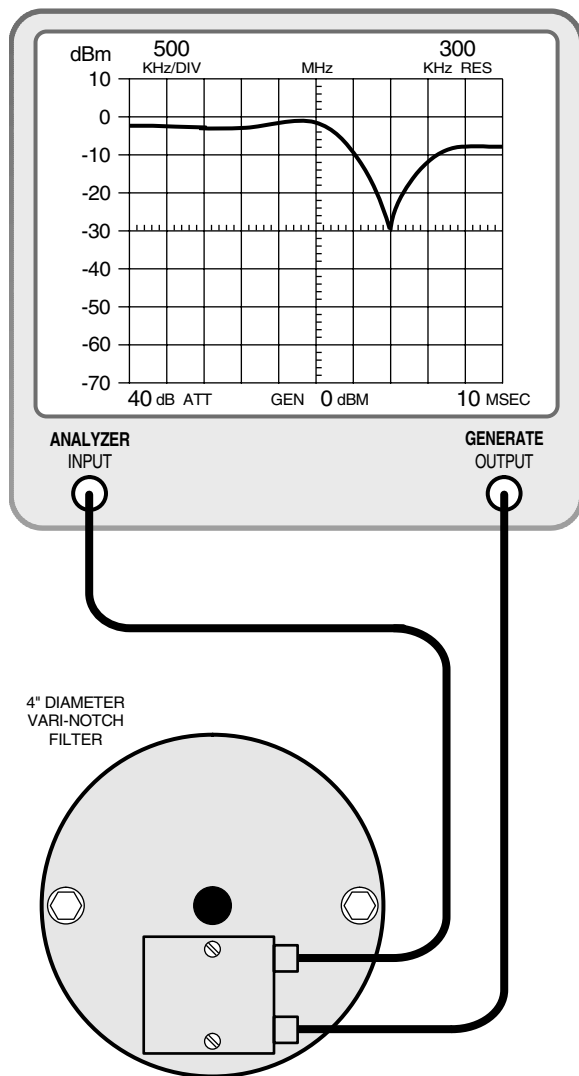

Figure 5: Checking the rejection notch.
1. The rejection notch is checked by connecting the tracking generator to the input of the cavity filter while the spectrum analyzer is connected to the output, as illustrated in **Figure 5**.